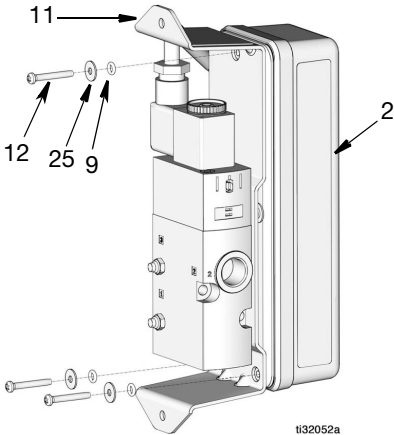

FIG. 39
8. Align PAC electronics enclosure assembly (2) to the bracket (11). Install o-rings (9), washers (25) and screws (12) to secure bracket to enclosure (FIG. 39).